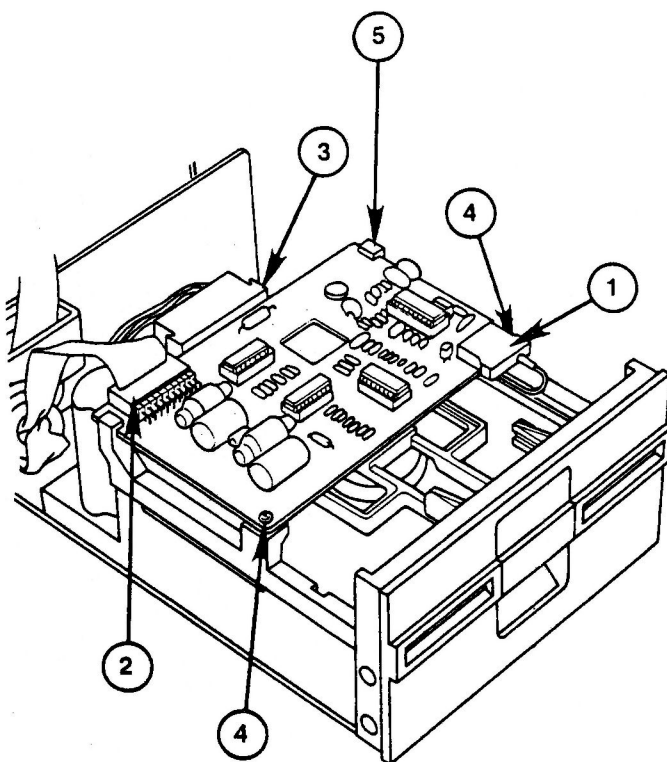

FIGURE 1
2. Gently disconnect the read/write head connector from the front of the analog card (Figure 1, #1).
3. Disconnect the ribbon cable from the rear of the card (Figure 1, #2).
4. Disconnect the motor connector from the rear of the card (Figure 1, #3).
5. Remove the two screws at the front of the analog card (Figure 1, #4).
6. Slide the card forward past the retaining slots at the rear (Figure 1, #5), and then lift it out.
1. Slide the card into position in the retaining slots of the rear support posts (Figure 1, #5).
2. Reinstall the two screws (Figure 1, #4) to hold the card in place.
3. Reconnect the read/write head connector (Figure 1, #1) to the card. Make sure that there is just enough loop in the cable so that it doesn't pull down on the head connector.
4. Reconnect the motor connector (Figure 1, #3) at the rear of the card.